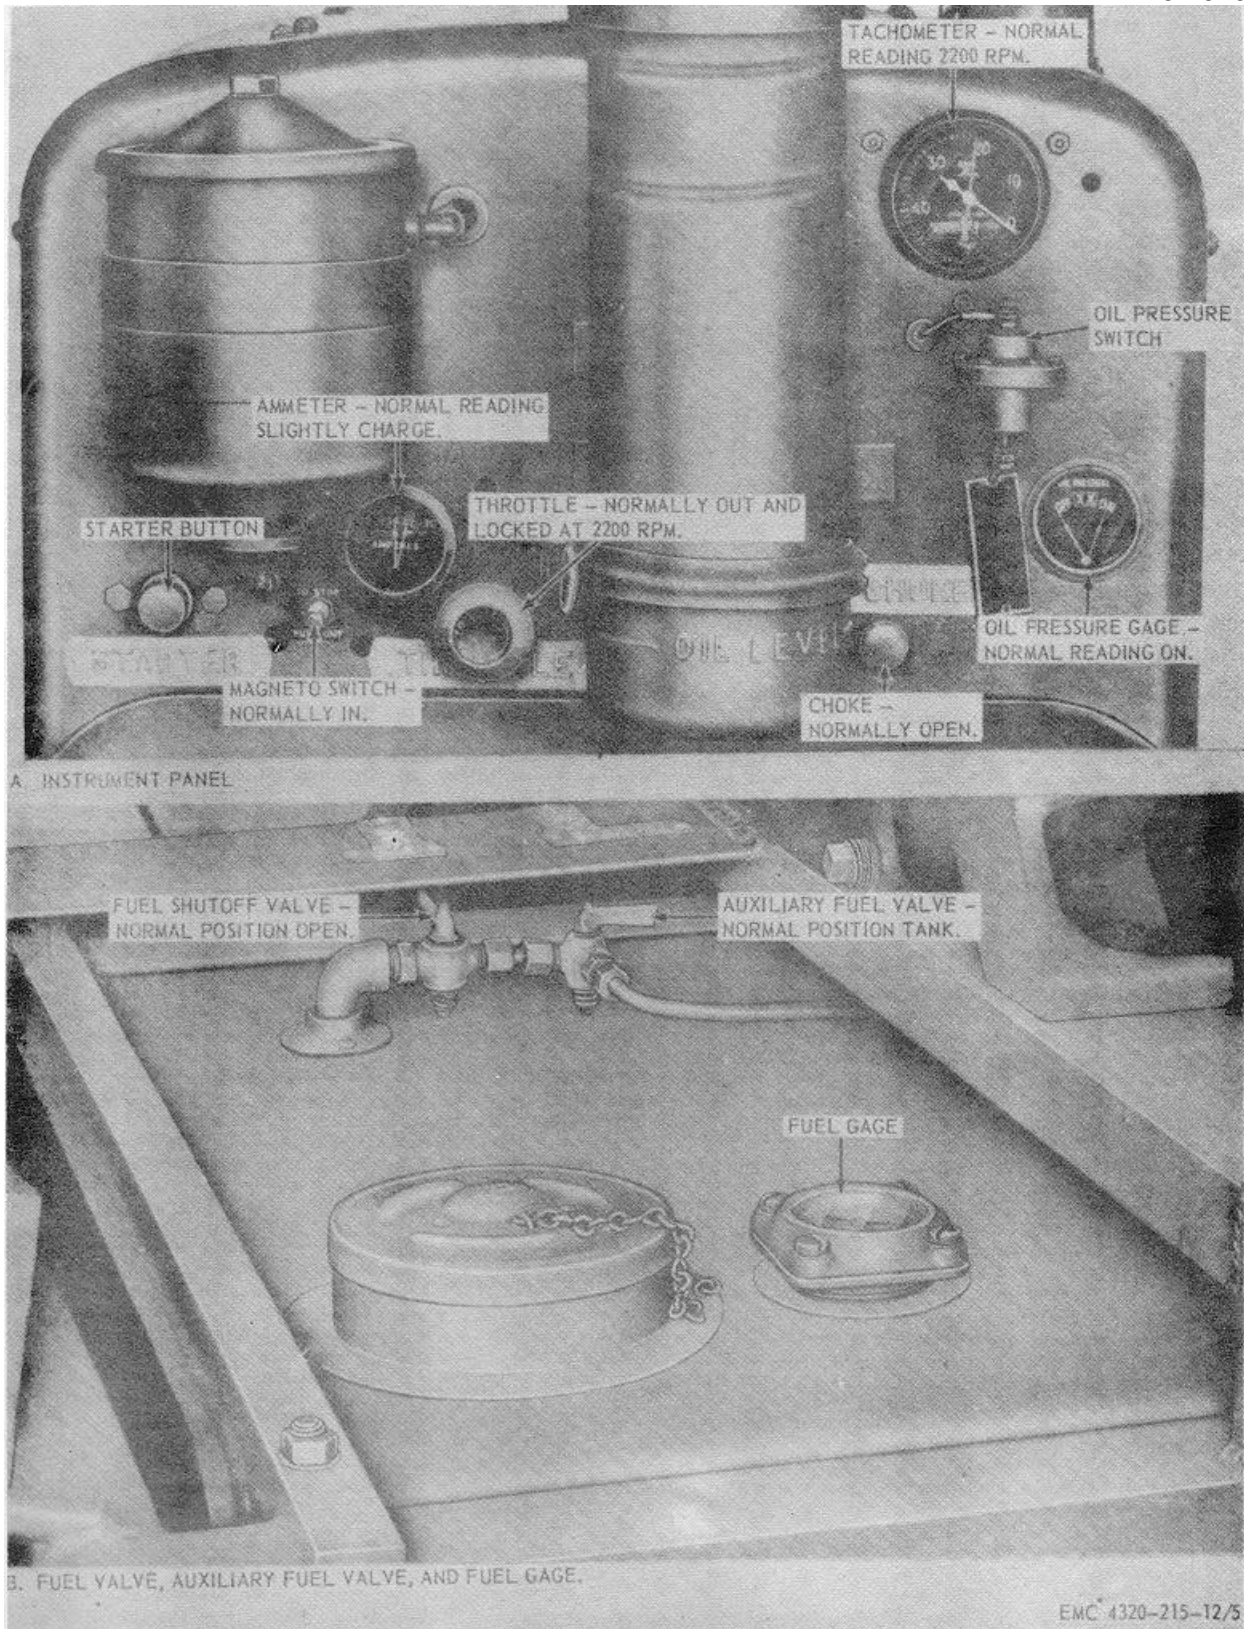

Figure 5. Controls and instruments.
Refer to TM, 5280--209-12 for purpose and normal readings of the engine controls and instruments. For the purpose and normal readings of the pumping unit controls and instruments, refer to figure 5.
- (1) Start the engine (par. 17).
- (2) Perform the during-operation services (par. 31).
- (3) Refer to figure 5 and observe instruments for normal operation.